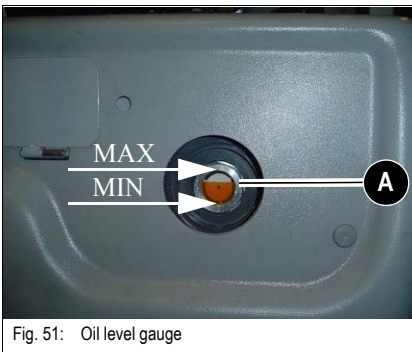

Fig. 51: Oil level gauge
- ☞ The oil level should be visible at about 1 cm (0.4 ") above the centre of the sight glass between the positions **Min** and **Max** as shown in Fig. 51